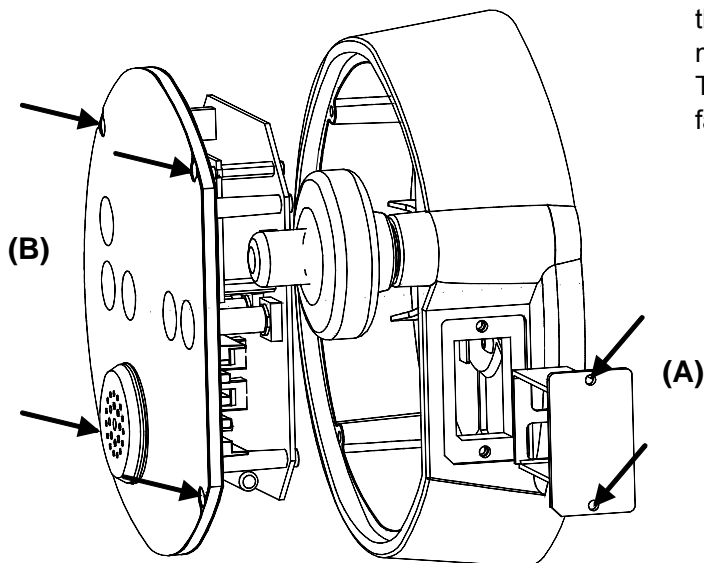

Figure 10-11
- Unscrew with the 2.5 Allen key the 2 screws (A) of the battery holder and pull it out as shown on Figure 10-11.
- Unscrew with the 2.5 Allen key the 4 screws (B) of the display unit and pull it gently out of the electronic box, as shown on Figure 10-11.
- Put back the new display unit in the electronic box; tighten the 4 screws (B) of Figure 10-11.
- Reinstall the battery holder with the 2 screws (A) of Figure 10-11. Refer to Figure 10-4 page 35.
- if the equipment (Q2) removed on Figure 10-11;